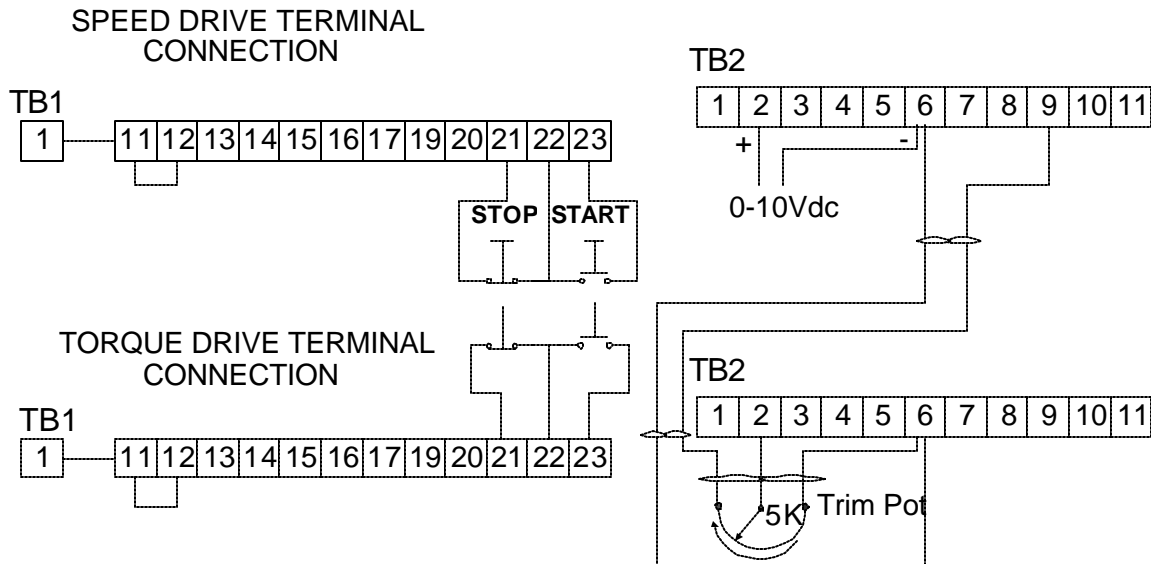

Figure 4.2.1b. Terminals connection using 0-10V for section 4.2.1b
- ? If you want to adjust the output torque externally than set **P312**, "Internal Torque" to **100%** and connect a 5K trim pot as shown figure 4.2.1b.